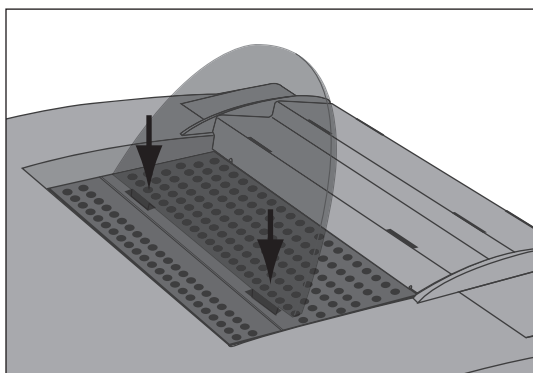

FIGURE 4
3. Install the gray Book Rest by inserting its tabs into the two slots on top of the rear book clamp. Press it straight down as far as it will go. Assemble the green Cooling Rack Rests into the Cooling Rack Base in the same manner – insert the rests in their respective slots starting with the tallest Rests at the rear. (fig. 4 and 5)